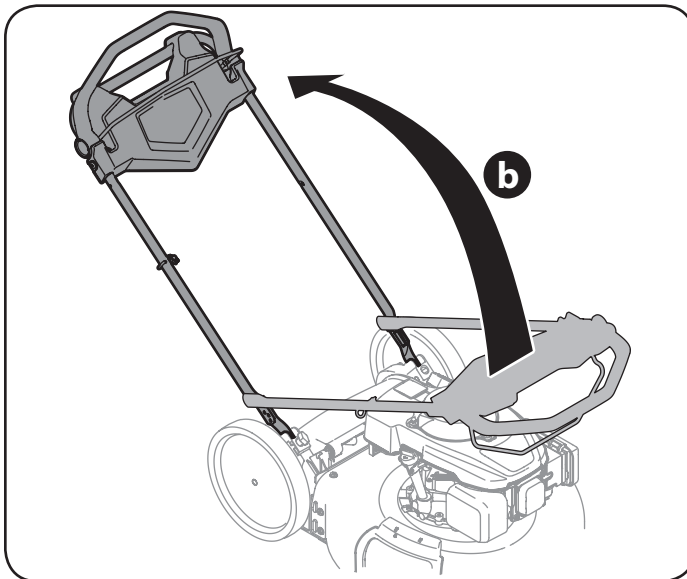

Figure 2
- b. While stabilizing mower so it doesn't move, pivot upper handle up as shown in Figure 2. Do not crimp cable while lifting the handle up.